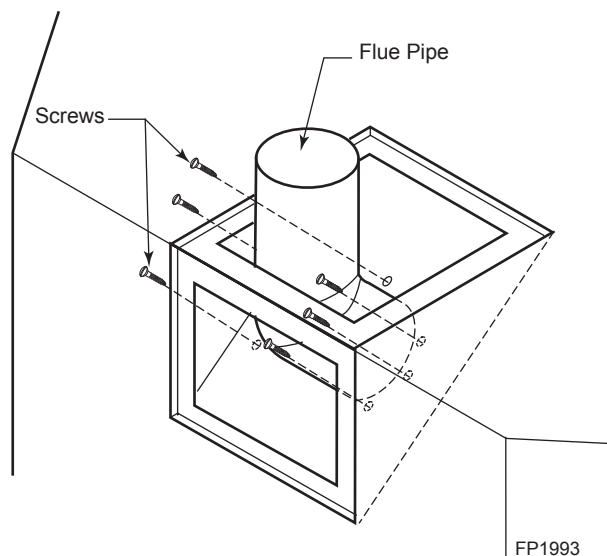

**Figure 9 -
4. Remove six (6) screws securing the flue pipe to the back of the intake box and remove the pipe and gasket. *Figure 9*